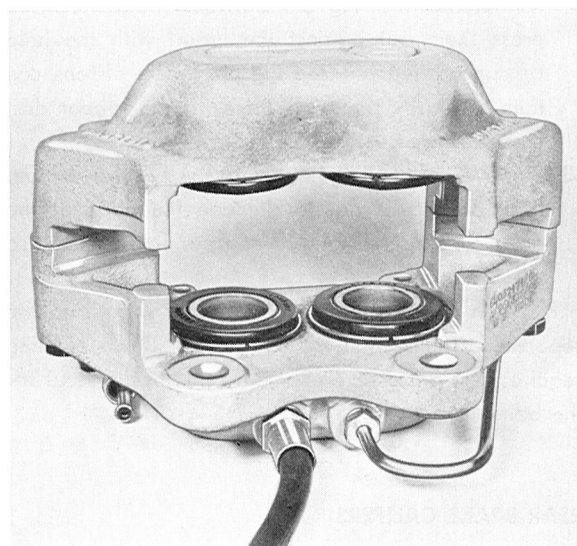

Fig. 5-28. Front brake caliper assembled
4. Fit the rubber covers on the piston and housing. Fit the lock rings, compare Figs. 5-28.